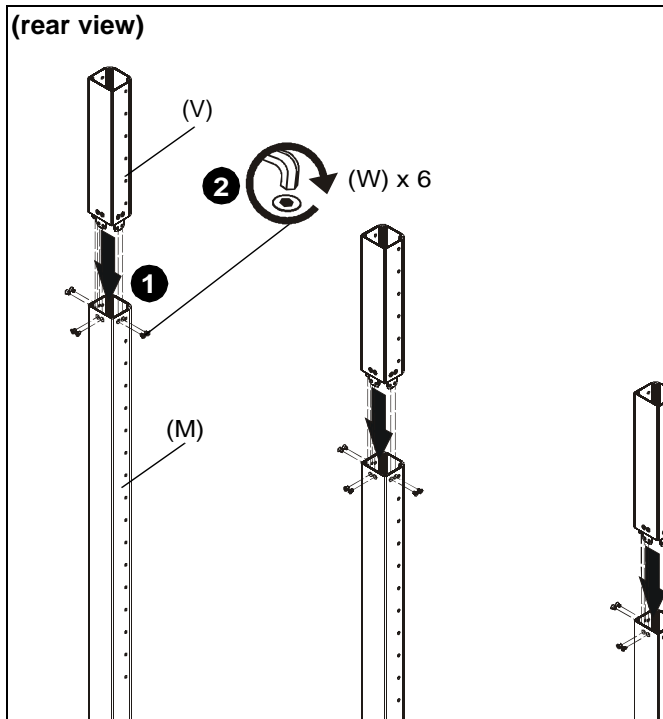

Figure 4
1. Insert one column add-on (V) to each column (M) making sure holes are lined up on each side. (See Figure 4)
2. Use 5/32" hex key (JJ) and six 1/4-20 x 1/2" flat head cap screws (W) to secure each column add-on (V) to each column (M). (See Figure 4)